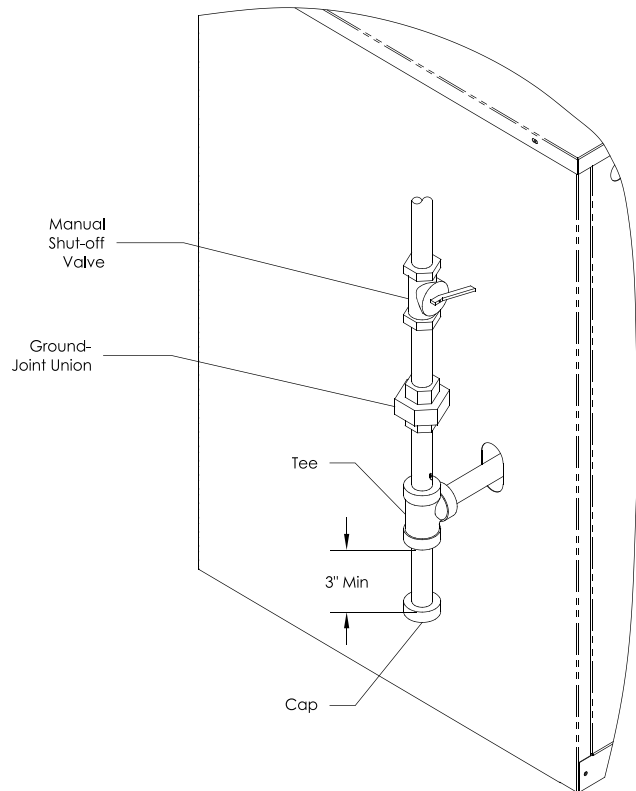

Figure 8-2: Pilot and Gas Piping
- C. Install sediment trap, ground-joint union and manual shut-off valve upstream of boiler gas control valve. See Figure 8-2 (within 6 ft. of boiler).